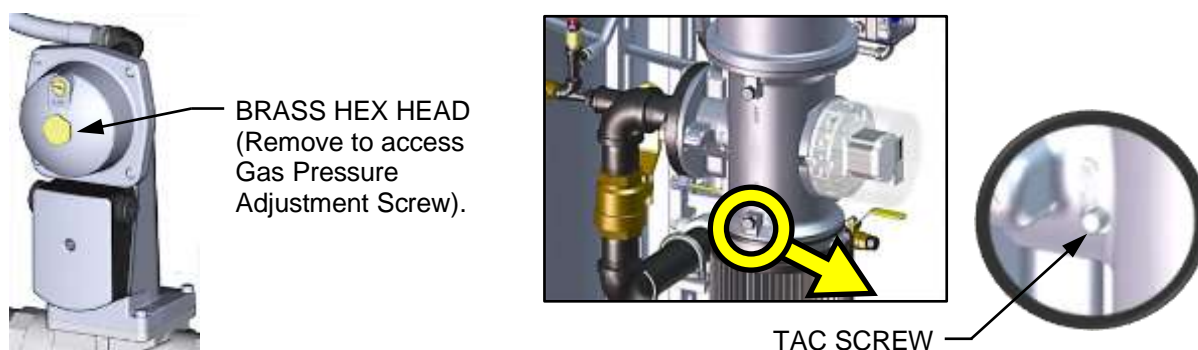

Figure 4-3: Gas Pressure Adjustment Screw and TAC Screw Location
15. Verify that the manifold gas pressure on the **downstream** side of the SSOV is within the range shown in Table 4-1. If it isn’t, remove the brass hex nut on the SSOV actuator to access the gas pressure adjustment screw (Figure 4-3). Make adjustments using a flat-tip screwdriver, slowly rotating the gas pressure adjustment (in 1/4-turn increments) **clockwise** to **increase** gas pressure or **counterclockwise** to **reduce** it. The resulting gas pressure reading on the **downstream** manometer should fall in the range listed below.